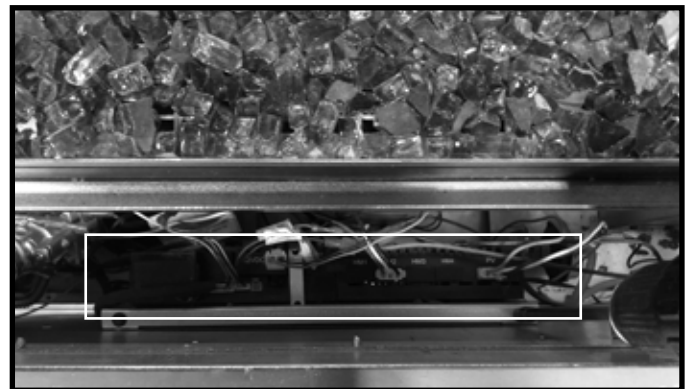

Figure 8.3 Location of Component Tray - Top View
7. Locate component tray and remove component tray screw. See Figure 8.3.